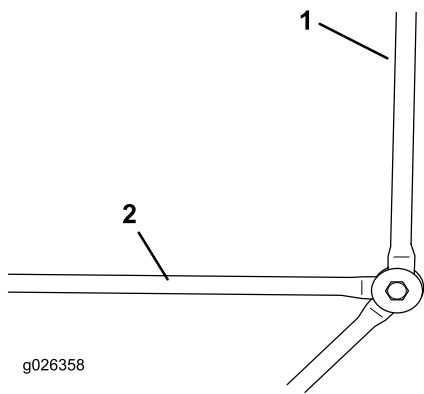

Figure 9
14. From the operating position, move the entire frame assembly forward until the rear frame is at a 90-degree angle to the horizontal frame (Figure 9).